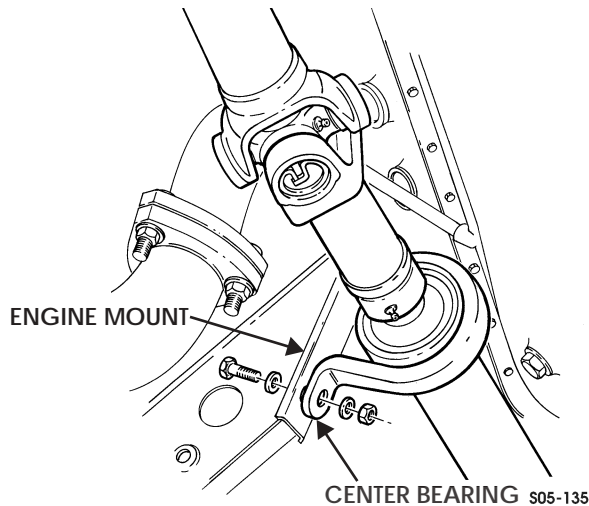

Figure 5-194: Center Bearing
5. Secure center bearing to engine mount with two washers, capscrews, washers, and locknuts. Tighten capscrews to 60 lb-ft (81 N•m) (Figure 5-194).